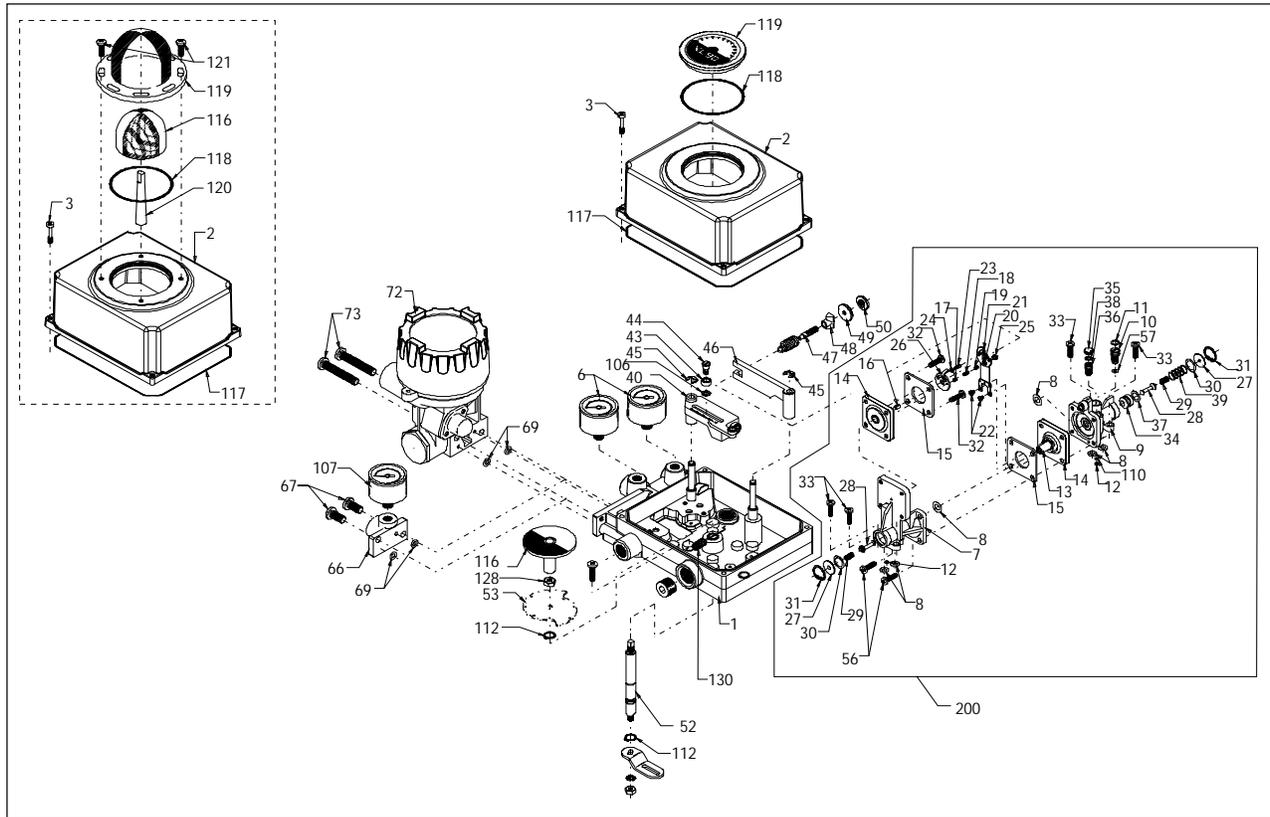

Figure 8: XL90 Positioner – Exploded View
**NOTE: Numbers in parentheses correspond to the numbers in Figure 8.**
1. Remove the feedback spring (47) and rotate the span and zero arms (40, 46) out of the way.
2. Remove four screws (33) holding the pilot relay to positioner base (1). Remove relay from positioner.
3. Remove the nut (25) connecting the flapper assembly (21) to the signal capsule.
4. Remove four screws (32) holding the two halves of the pilot relay assembly together. Carefully pull the relay assembly halves apart, making sure the flapper assembly (21) slides off the flapper adjustment screw (19) without damaging the signal diaphragm assembly (16). Pull the relay diaphragm assembly (13) out of the other half of the relay body (9).
5. With the relay assembly in two sections, remove two screws (22) holding flapper assembly (21) to the relay diaphragm assembly (13). Remove the flapper.
6. Remove diaphragm retaining plate (15) from relay diaphragm assembly (13) and relay plate (14).
7. Replace relay diaphragm assembly (13) with one from the positioner repair kit. Place the relay plate (14) between the new diaphragms making sure the 1/16-inch diameter holes between the relay plate (14) and the diaphragm line up. Position diaphragm retaining plate (15) on relay diaphragm assembly with rounded inner diameter edge against diaphragm.
8. Attach flapper assembly (21) onto relay diaphragm assembly (13) using two screws (22) with a locking adhesive on the threads. The flapper assembly should extend away from the 1/16-inch diameter hole through the relay plate. Make sure lettering on flapper assembly is facing away from diaphragm.
9. With relay halves still apart, remove relay tube O-rings (8) from upper and lower bodies (9, 7) and replace them with new O-rings (found in the positioner O-ring repair kit).
10. Remove rubber cap (35) and balance adjust screw cap (36) from upper relay body (9). Remove O-ring (38) from balance adjust screw and install new O-ring.